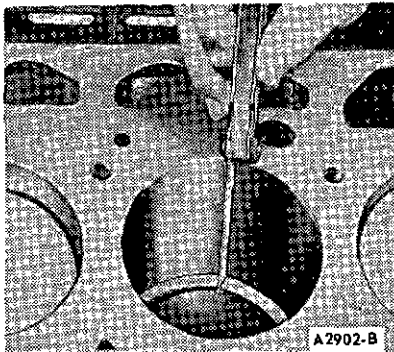

FIG. 30 Checking Piston Ring Gap
5. Measure the gap between the ends of the ring with a feeler gauge (Figure 30). If the ring gap is less or greater than the specified limits, try another ring set.